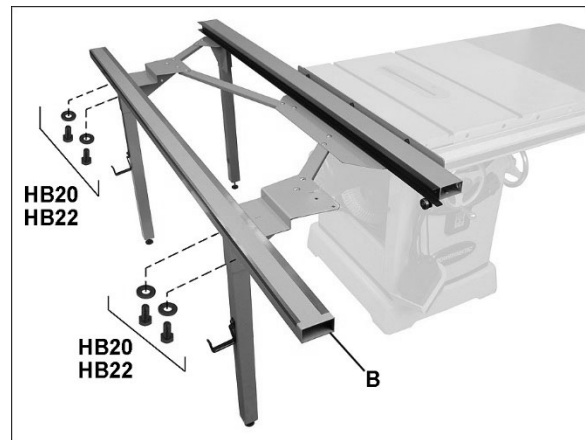

Figure 7-9
4. Use **HARDWARE BAG 2**: Install outer rail (B, Figure 7-9) to leg brackets. NOTE: The wider metal strip faces toward saw. Position rail so that screws are midway in the slots, and *finger tighten only.*